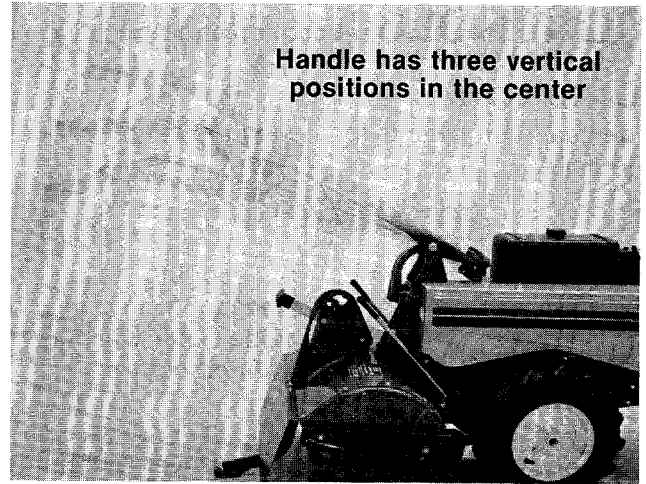

FIGURE 19.
Squeeze up on handle adjustment lever and place the handle in one of nine (9) positions. See figures 19, 20 and 21.